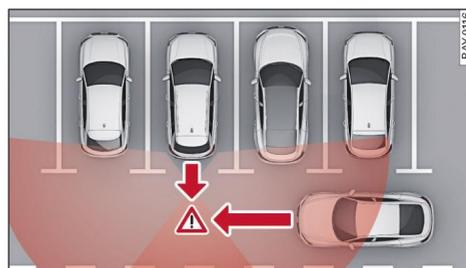

Fig. 112 Areas covered by sensors for rear cross-traffic assist
the area behind and to the side of the vehicle. The system can detect moving objects, such as cars, as they approach the vehicle ⇒ *Fig. 112*. When driving out of a parking space, you are assisted by an MMI display ① and various warnings.
The areas covered by the sensors ⇒ *page 201*, *Fig. 112* are examples and do not represent the range of the sensors to scale.